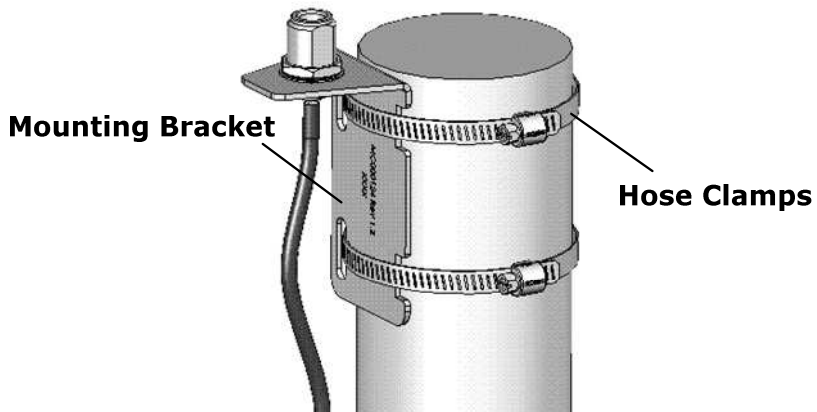

Figure 9: Mounting Bracket to Pole
3. Attach the bracket to the pole. For poles 3" diameter or less use the supplied hose clamps [C]. For larger poles use appropriate hose clamps (not supplied with mounting kit). See Figure 9.